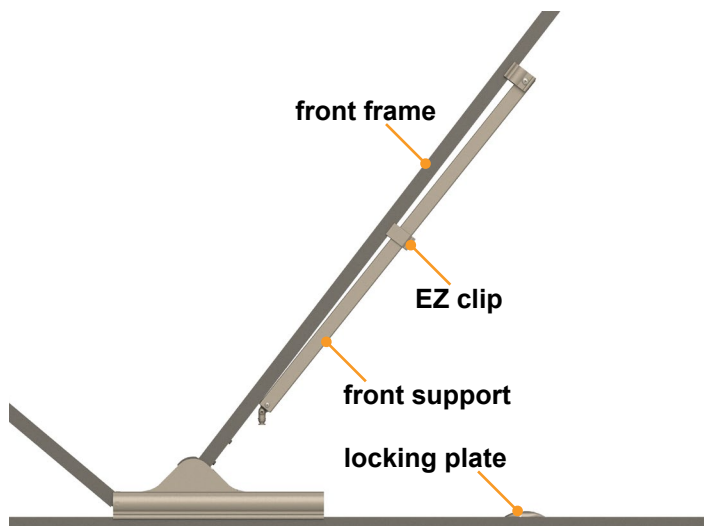

Fig.23
3. Push the front sport arm into its EZ Clip (Fig.23).